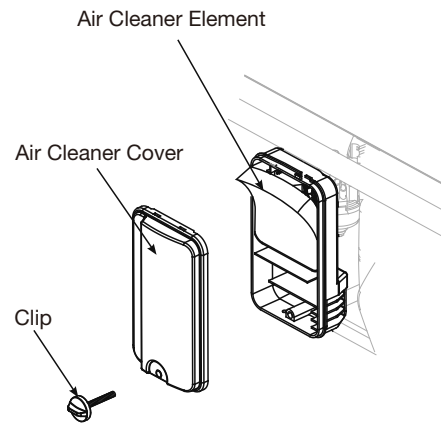

Figure 9: Unscrew air cleaner cover
1. Open the air cleaner clip and open the air cover. Check the air cleaner element for complete and clean (see Figure 9).